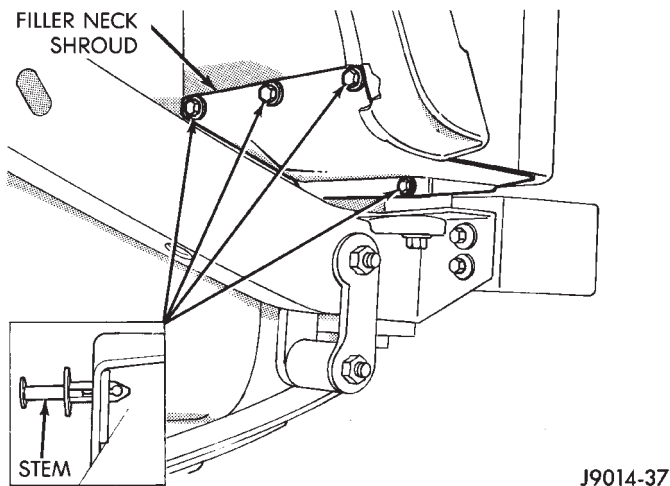

Fig. 4 Fuel Filler Neck Shroud—YJ Models
- (1) Disconnect negative battery cable.
- (2) Remove the fuel filler cap. Using an approved portable gasoline siphon/storage tank, drain fuel tank.
- (3) Raise and support vehicle.
- (4) Using a small straight blade screwdriver, pull back the stems of the push clips that secure the fuel filler neck shroud (located at bottom of left rear wheel well) in place (Fig. 4). This unlocks the push clip allowing them to be removed by pulling assembly out of shroud. Remove shroud.